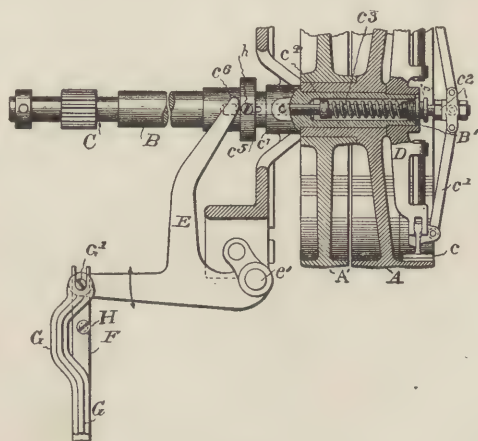
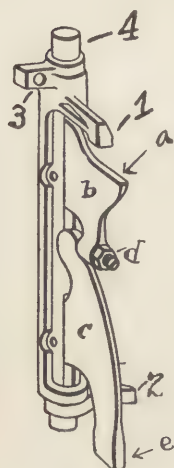

FIG. 16.
FIG. 17.
lent drawing of the clutch here (Fig. 16). *B* is the driving shaft of the machine, which is in two sections,
(*a*, Fig. 17).
"The stopping pawl strikes on top of the lever (*b*), forcing it downward, the adjusting screw (*d*) pressing the lower end of the lever (*c*) outward, and as its point (*e*) presses against the forked lever *E* (Fig. 16), which is pivoted on the machine frame at *e*¹, you can
"The last time the inspector was around here," said the Machinist, "he put a new connecting rod (G , Fig. 16) on all these machines, so that now the readjustment of the clutch does not affect the automatic devices in the vise. The clutch adjustment consists in allowing a space of $15/32$ of an inch between the collar c^5 and the bearing c^7 when the clutch is in action, as in the drawing, this being regulated by the nuts c^2 on the end of the rod, and having $1/32$ of an inch space between the end of the forked lever c^6 and the collar c^5 , the screw in the stop lever (d , Fig. 17) being the means of making this latter adjustment. I have a piece of steel $15/32$ of an inch wide and $1/32$ of an inch in thickness which I use when setting the clutch, so measurements don't bother me. Now, however, the company makes the position of the clutch fixed by doing away with the nuts on the end of the rod and putting a screw through the levers."
"That screw H on the starting and stopping rod F " (Fig. 16), said the Machinist, "stands just behind the lug on the vertical lever (2, Fig. 17), and when the lever is pulled out the screw engages the lower lug and causes the upper lug (1) to push the stopping pawl off the stop lever (b), producing the same effect as if the line-delivery carriage were sent over. A spring pressing on the projection (3) retracts the vertical lever. These are the adjustments which should be maintained: Set the automatic stopping and safety pawls so that the distance from right edge of cam 10 to right side of pawls is 15-16 of an inch; then set the stop-lever rod (4), held by the small square-head screw in top bearing so that the pawls will rest on the stop lever (b) $\frac{1}{4}$ of an inch. By means of the plates carried by the pawls, set them so that the rollers will push them far enough to the right to clear the stop lever 1-16 of an inch. Adjust the vertical lever by means of the screw in the machine frame so that the lug (1) will clear the pawls as they pass 1-64 of an inch, and push them far enough to the right, when operated by the starting lever, to give a clearance of 1-16 of an inch between them and the stop lever."